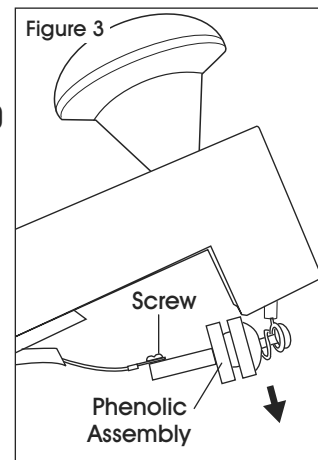

Figure 3
2. Locate the phenolic assembly and remove from arm slot by pulling downward. (See Figure 3)
3. Remove the screw that secures the wire to the assembly. (See Figure 3)